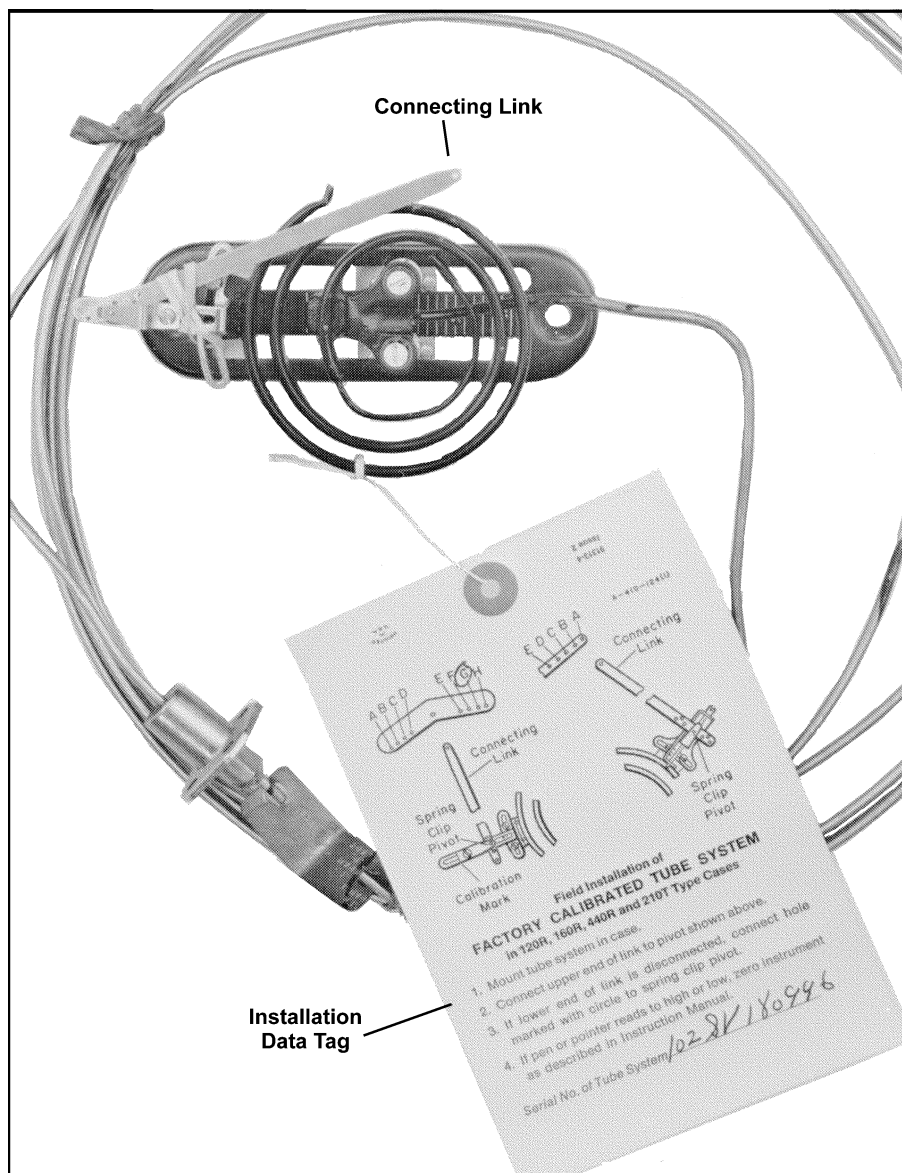

Figure 19. Typical Replacement Measuring Element
* NOTE: Refer to Figure 19. The replacement thermal system has been factory calibrated with a specific link length and pivot selection. **Use this Link on New Element and Refer to Yellow Instruction Tag for Installation Information.**